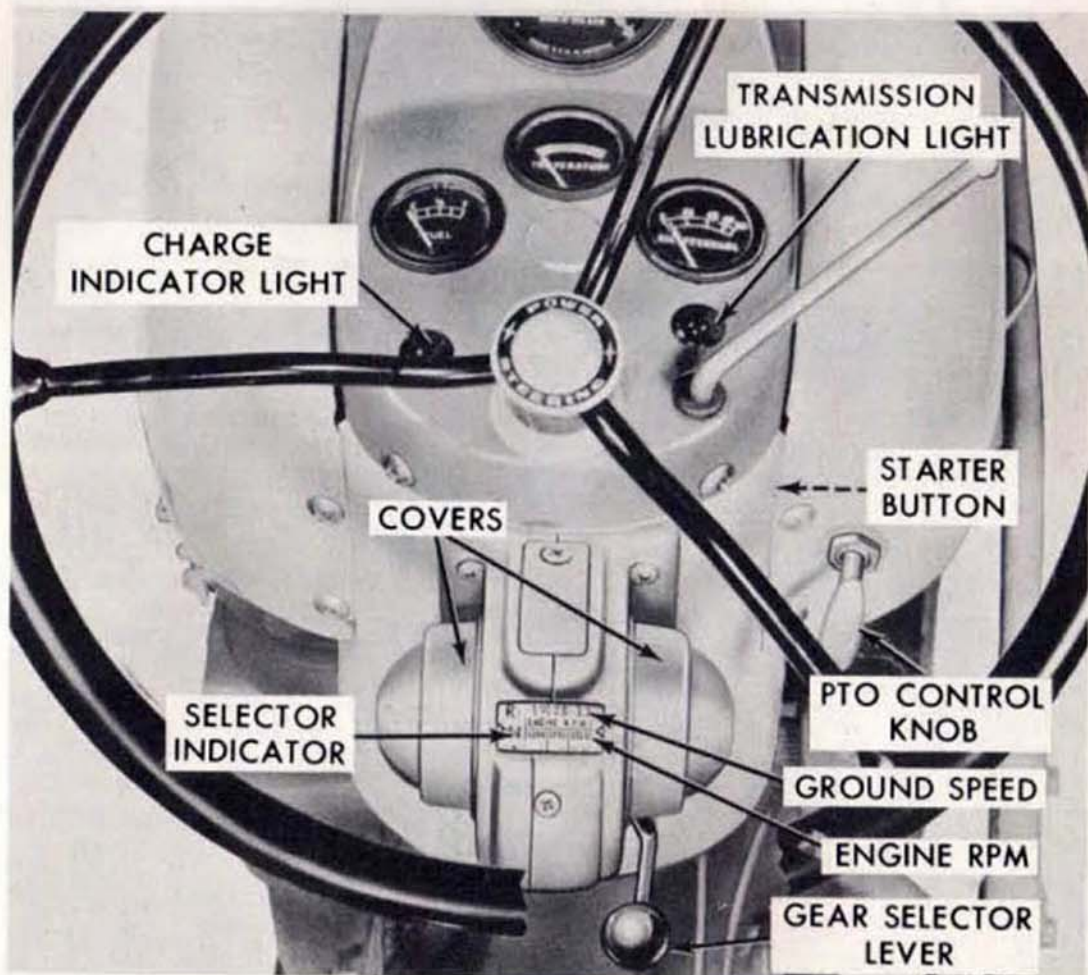
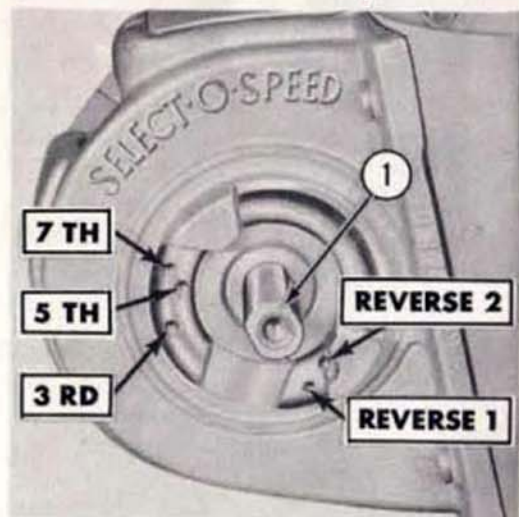

Figure 4
Figure 11
The Select-O-Speed Transmission shift lever is located on the speed selector housing which is directly under the steering wheel. As the lever is shifted, a selector indicator, Figure 4, shows the gear selected.
On Select-O-Speed Transmission equipped tractors, the safety type starter button, Figure 4, is located on the underside of the hood panel. As a safety feature, the starter button will not start the engine until the shift lever is placed in the park (P) position.
The Select-O-Speed Transmission is pressure lubricated. A lubrication light, Figure 4, indicates low oil pressure when lit.
On tractors equipped with the Select-O-Speed transmission the PTO control knob is conveniently located in front of the operator as shown in Figure 4 below. Slowly pulling the knob outward permits gradual engagement of the PTO shaft to ease into loads. To disengage the PTO at the end of the row for turning, etc., just push the knob in. Then, engage it again when you start a new row.
Speed Selector Mechanism: The selector indicator, Figure 4, shows the gear selected and the ground speed when the tractor engine is at 1200, 1750, or 2200 rpm. Ten forward speeds (indicated by numerals 1 to 10), two reverse speeds (R_1 and R_2), a park (P), and a neutral (N), can be obtained by means of the gear selector lever. The selector indicator is lighted when the ignition is on.
To move the selector lever to the opposite side of the shifter mechanism, take off both covers, Figure 4, by removing the Phillips head screw as shown at (1), Figure 11. Remove the selector lever from the shaft and position it on the shaft on the opposite side of the shifter mechanism. Switch the covers and reinstall with the Phillips head screws. Tighten securely.
These stops are especially convenient for loader and other material handling operations. The speed stop screws can be positioned in any two of the gears 3, 5, 7, R₁ or R₂ by inserting them in the holes shown in Figure 11. These stops can be over-riden to obtain any gear by pulling outward on the spring loaded selector lever and shifting to the desired gear. When selector stops are not desired, the stop screws should be placed in the holes on the side opposite the selector lever. Tractors will be shipped from the factory with the stop screws in this location.